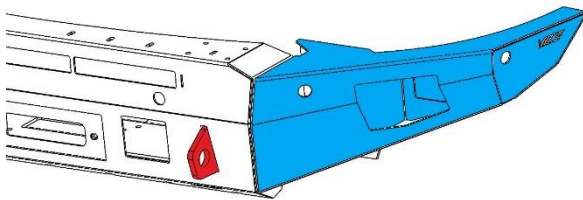
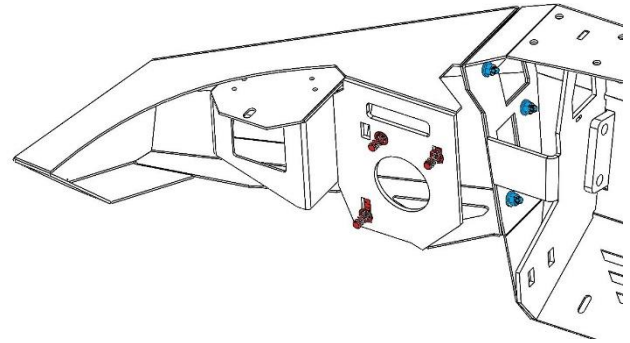
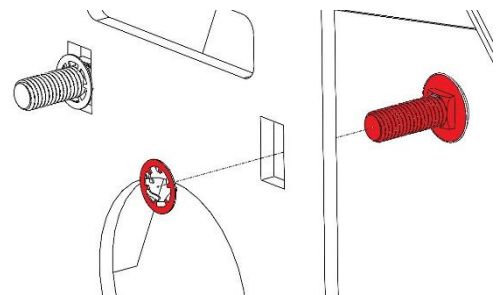

Figure 1
Figure 2
Figure 4
12. Install the bumper wings highlighted blue in **Figure 1** onto the center section using 3x 3/8 carriage bolts, washers, and nuts per side. See bolts and nuts highlighted blue in **Figure 2**. Align the inside of the bumper edges so they sit flush and tighten the fasteners to about 30ft-lbs.
13. Install the lugs shown in Figure 1 using 2 x M12 carriage bolt per side, with the nut facing the center of the bumper. **Torque all 4 of these carriage bolts to 65 ft-lbs**
17. Install six M12 carriage bolts into the frame mount holes on the inside of the bumper (three on each side), as highlighted red in **Figure 2**. Use a 17mm deep socket to secure the provided pushnut bolt retainers and hold the carriage bolt onto the bumper as in **Figure 4**. These will make installing the bumper much easier!